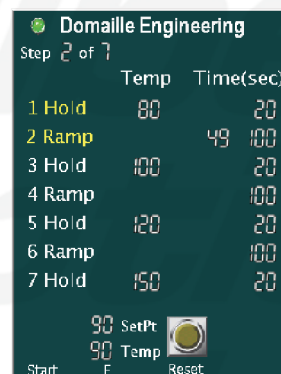

FIG 21. Step & Ramp Step Indicators
This mode lets the user select up to four (4) temperature set points followed by time values with linear ramp settings allowing the oven to operate in a programmable mode over an extended period of time. A text indicator in the top left will allow the user to identify the current step of the overall process. In addition, once a step has started or is completed the text of the step will change to YELLOW [FIG 21].